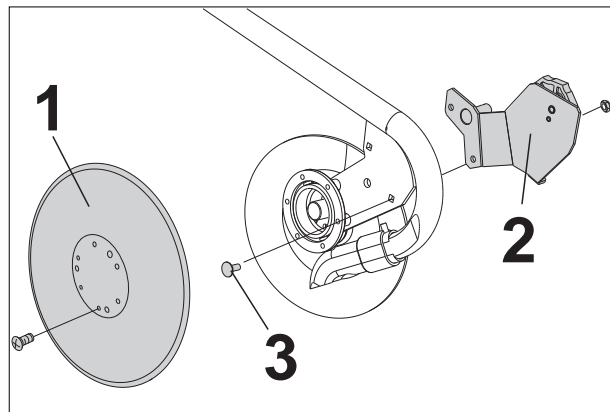

Fig. 24-26
1. Remove the steel disc of the CX coulters (1, fig. 24-26)
2. Fasten the retaining sheet (2) to the CX coulters by means of two saucer-head screws (3)